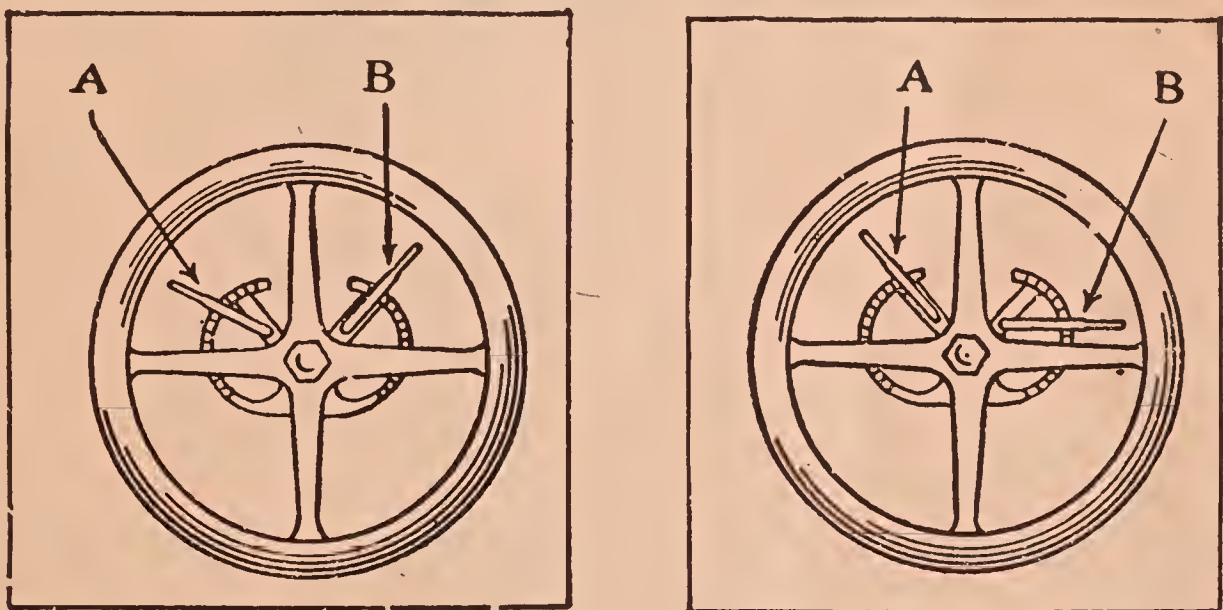

Fig. 1
2. Move the spark and throttle hand levers to the starting position (Left, fig. 1).
Position of the Spark and Throttle Hand Levers—As soon as the engine has started, immediately remove the foot from the starting button and move the spark and throttle hand levers to the running position (Right, fig. 1) their normal positions when the engine is in operation. **Do not let the engine race—run at a high rate of speed, as this is injurious to a degree.**
The function of the throttle hand lever (A, fig. 1) is to limit the minimum speed of the engine and also to vary the engine speed through its entire range. The car can be driven, that is, its speed controlled, by manipulation of either the throttle hand lever or the accelerator, but the driver will find use of the latter more convenient, as it leaves both hands free for steering and other things. During long and uninterrupted running on high gear, however, it may prove more comfortable to use the throttle hand lever and thus prevent tiring the foot and ankle; its use when passing over stretches of rough road, also, is advantageous in that it makes possible control of the engine speed, and hence of the car speed, at a steady rate.
Spark Hand Lever—The spark hand lever's (B, fig. 1) function is to vary the point at which ignition occurs in the cylinders; manipulation of this part advances or retards the ignition (makes it late or early) as may be desired by the driver.